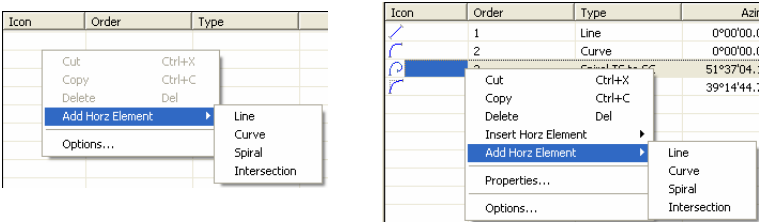

Figure 9-34. Adding Horizontal Element Through the Right Panel
- In the right panel, right-click in the Roads tab or the selected element and click **Add Horz Element** (Figure 9-34).